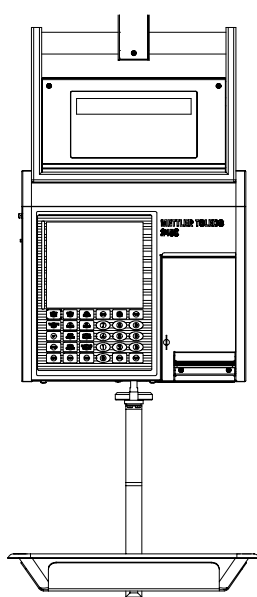

Figure 3-3: Empty Pan
1. The display will show **Empty Scale, Enter**. Make sure scale pan is empty, then press the ENTER key (Figure 3-3).